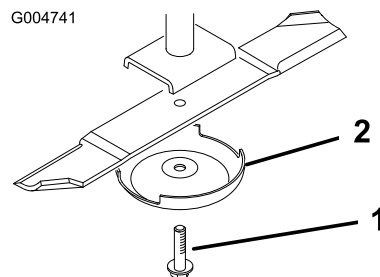

Figure 29
3. Remove the blade bolt, anti-scalp cup, and blade from the spindle shaft (Figure 29).